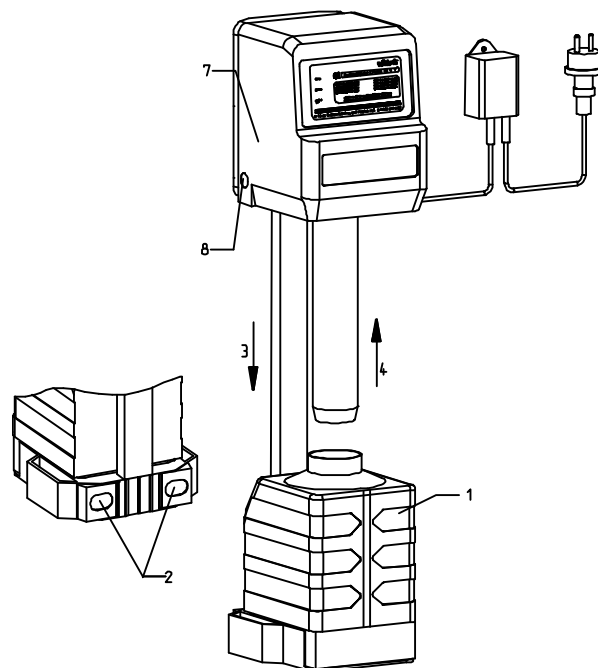

Fig. F-1: Replacement of the dosing tank EXADOS® EK 6
As soon as "Tank empty" is indicated, remove the tank and replace it by a new dosing tank (see fig. F-1, pos. 1).
At the compact unit EK 6, this is done by pressing the two locking keys (see fig. F-1, pos. 2) simultaneously which are placed at the rear of the tank console.
Together with the tank, the console may then be moved downwards (see fig. F-1, pos. 3), .